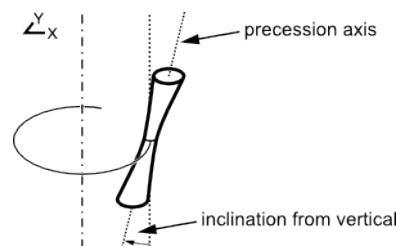

Figure 5.13: Static precession axis inclination for corrections
**Inclination from vertical** sets the beam inclination from vertical. Normally the precession axis is vertical orientated and the precession parameters change continuously the inclination angle of the beam axis. But the precession axis can be statically set to a specified position by inclination from vertical and azimuth where to add the wobble. The following figure 5.13 on page 86 illustrates this.